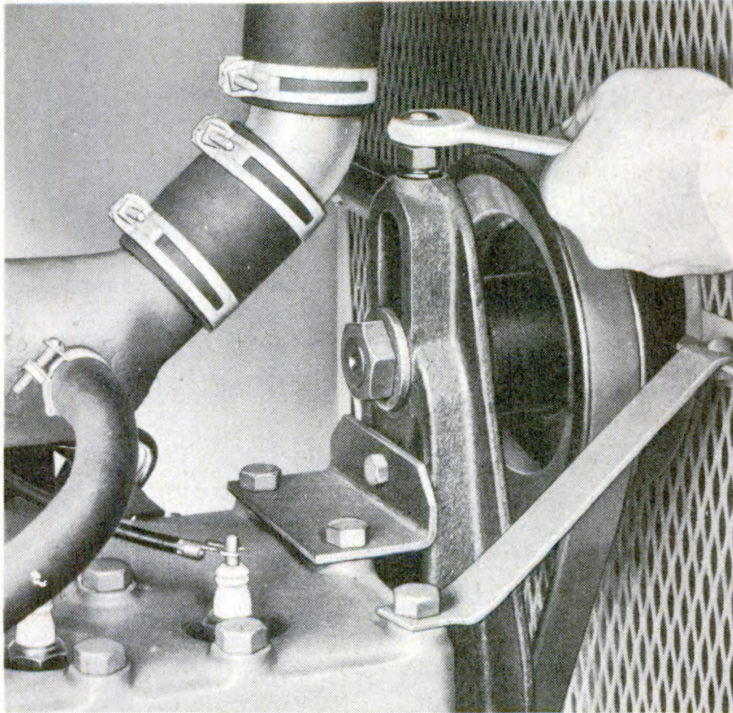

Figure 22 — Fan Belt Adjustment
- (1) Attach fan bracket to engine with cap screws provided.
- (2) Bring fan belt up over fan onto fan pulley (fig. 21), then onto pulley at end of accessory drive. Turn adjusting screw (fig. 22) until the amount the fan belt can be deflected at a center point between pulleys measures from $\frac{1}{2}$ to $\frac{3}{4}$ inch. Tighten lock nut against bracket.
(3) Place fan guard sections in position, and secure to fan shroud with lock washers and nuts on the projecting bolts. Fasten sections together with machine screws, lock washers, and square nuts. Bend cylinder head to guard bracket into position so that its screw hole is aligned with screw holes third from right-hand side of the two half sections of the guard.